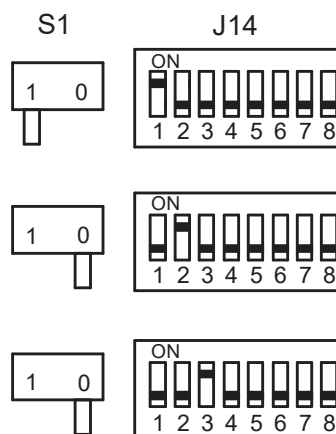

Figure 15 - Positions of the S1 and J14 switches for the first three air heaters in a system
1. Set the S1 and J14 switches on the control unit as follows (figure 15):